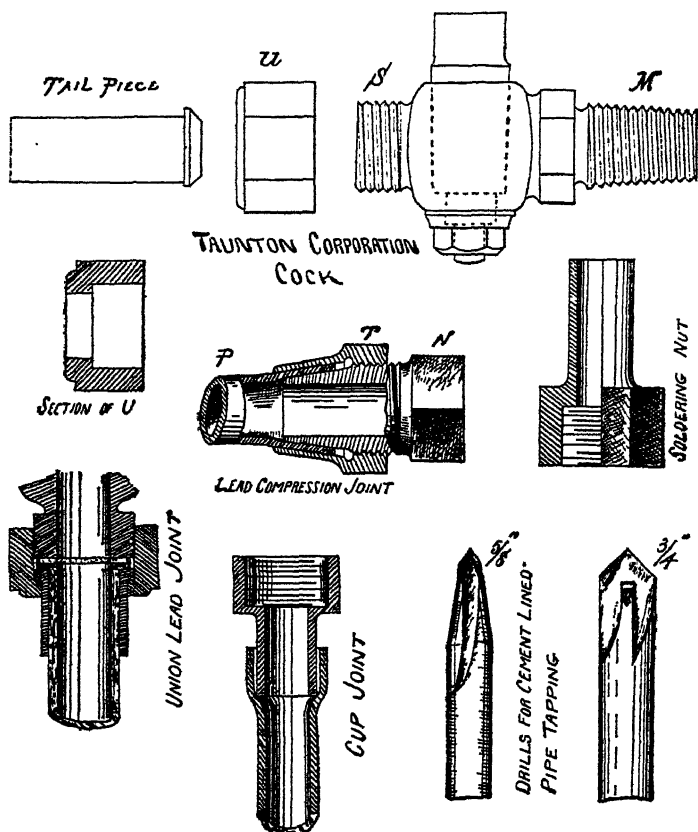
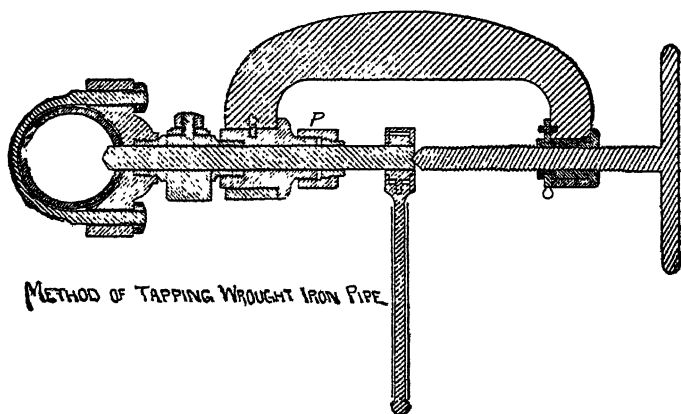

FIGURE 22.
FIGURE 24
Referring to Figure 22, in which is represented the particular pattern of corporation cock, with full  $\frac{3}{4}$ -inch way designed by the writer, for use upon the Taunton Water-Works, the end M is the end which is screwed into the main. The general form of this end is the same no matter what is used for service-pipe. Something is saved in the cost of manufacture by using the same thread at S and M. Eleven, twelve, fourteen, or sixteen threads to the inch are admissible, but fourteen has been found to give good results in the practice of the writer. At the end S and in the parts immediately following there is room for great variation in form and method. With the nut *u* (shown also in section) and the tail-piece forming a ground union-joint at the end S, this form of cock may be used (1) with lead service-pipe by making a wiped joint or a cup-joint between the lead pipe and the tail-piece; or (2) with any kind of wrought-iron service-pipe by joining on to the tail-piece a short piece of lead pipe, perhaps 18 inches, just as if the service were to be of lead pipe, and then, by attaching a soldering nut, as shown, and continuing the line with screw-joint pipe.
The compression-joint was in use a few years ago in Taunton, but was abandoned for a cup-joint. The corporation-cock then in use was shaped at the end S like the projecting part of N in the compression-joint shown in Figure 22, and tightness was secured by scraping the outside of the lead pipe to a reasonably smooth surface, so that the cone-shaped nut would draw the lead pipe firmly over the conical projection; the lead pipe having been first spread by driving in a solid plug.
It is evident that this principle can be applied in a variety of ways, and that castings can be designed to fit any combination of materials. For example, the cup-joint in Figure 22 shows how a wrought-iron service-pipe may be joined to a lead connection from the corporation-cock. The lead pipe is attached by a wiped or cup joint to the soldering nut, which is tapped out to receive any size of wrought iron or brass pipe that one chooses.
Still another form of joint has been brought to my attention, by Mr. J. G. Briggs, Superintendent of Water-Works at Terre Haute, Ind., and shown also in Figure 22, as a union lead joint. Mr. Briggs says the idea is not a new one, but was used twenty years ago or more by an English company who did a large amount of work at Rio Janeiro, Brazil, and that in San Francisco the joint has been used for sixteen years with good results. The lead pipe is put through the
A cup-joint is shown in Figure 22, and is made by expanding the end of the lead pipe with a properly shaped plug, scraping the inside of the cup with a jack-knife to give a surface of clean metal, dropping a soldering nut or tail-piece, properly tinned, into the cup, heating the whole joint by some appropriate method, and finally by filling the thin annular
different conditions call for different treatment. Figure 24 shows in section the apparatus used for tapping wrought-iron kalamein pipe, used by Mr. Frank E. Hall, Superintendent of the Quincy, Mass., Water Co., and to whom I am indebted for a drawing of the machine. A packing of sheet-lead is put between the clamp and the pipe at the point to be drilled, and if tightness is not secured by screwing the nuts down hard, the lead can be calked up.
soldering with an ordinary iron, or by wiping, and then, with an arrangement similar to that shown in Figure 24, a hole is drilled, passing the drill through the opened cock. After perforation the drill is withdrawn just far enough to allow the tapper to close the cock, and then the tapping apparatus is removed, the stuffing-box at P having kept the water back during the operation. Any convenient form of drill may be used, but Figure 22 shows the form used at Plymouth, Mass.